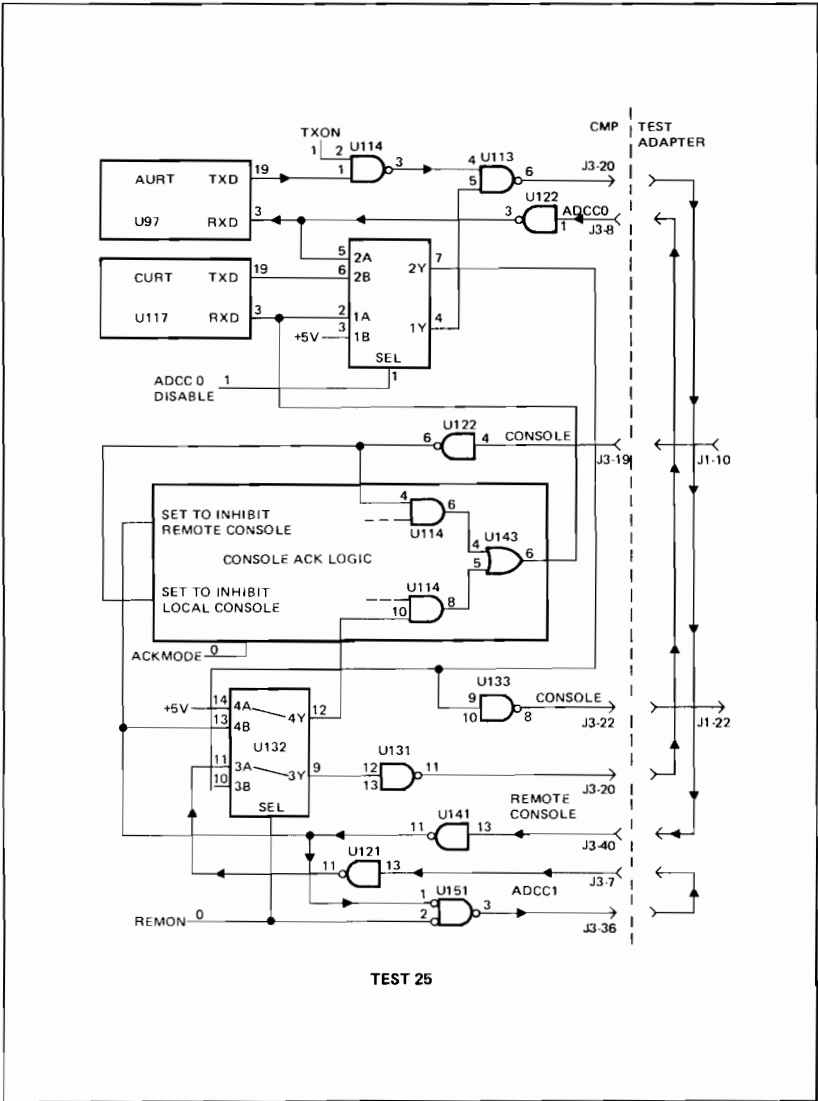

Figure 3-14. Data Comm Test Step 25
- 25 The ACK circuitry is cleared in preparation for steps 26 and 27. (See Figure 3-14.)